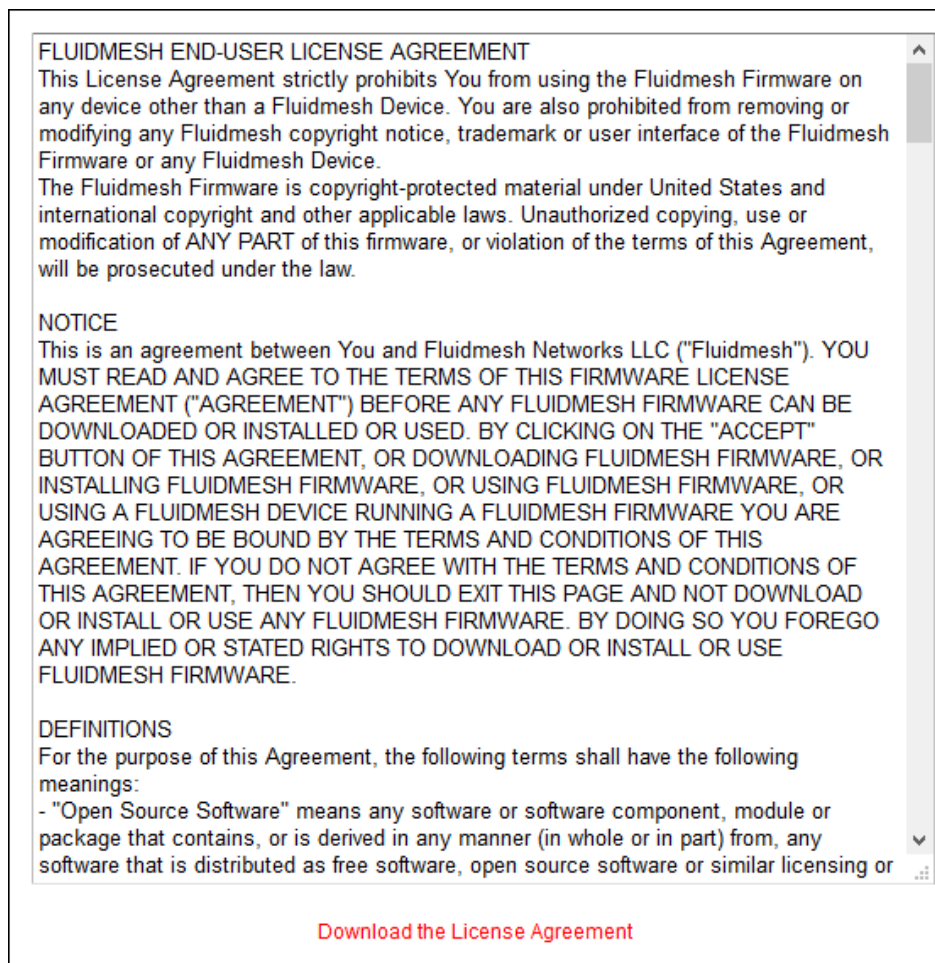

Figure 63. Configurator GUI (End-user license agreement)
- The license agreement dialog will be shown (Figure 63 \(page 144\)).